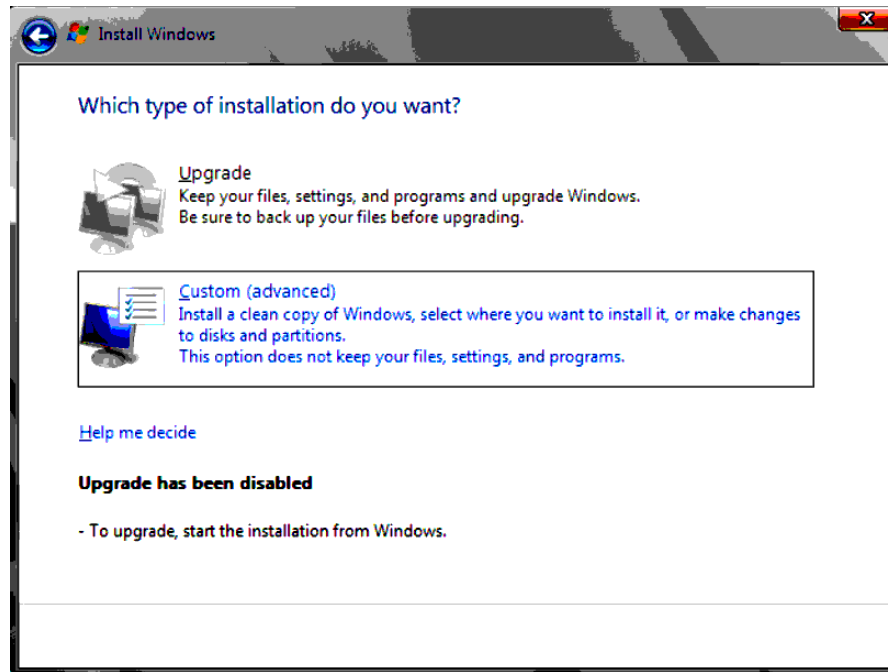

Figure 5-36 Select type of installation: Upgrade or Custom (clean installation)
5. Select **Custom (advanced)** to install a clean copy of Windows as shown in Figure 5-36 on page 291.